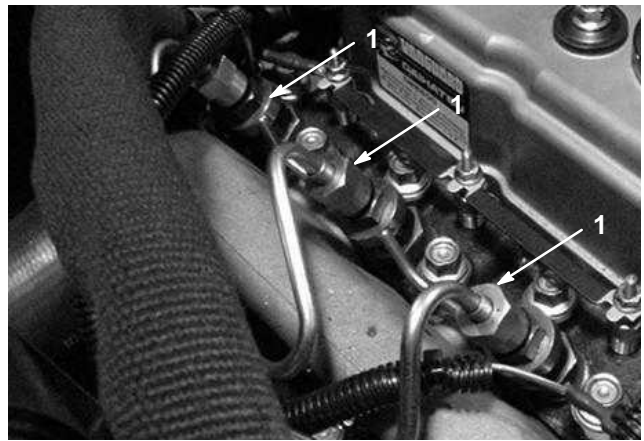

Figure 55
1. Loosen the pipe connection to the No. 1 nozzle and holder assembly (Fig. 55).